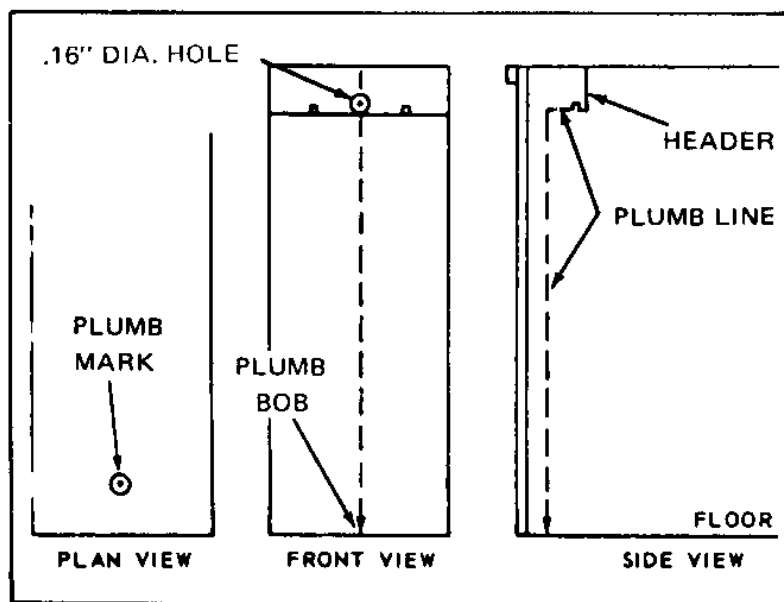

Figure 23. Plumbing Switchgear Units
will have a plumb mark stamped on the floor plate. This mark is located inside the breaker drawout compartment and is represented by a center punch mark with a circle around it. Directly above this mark is a .16" dia. hole in the header of the breaker compartment, as illustrated in Figure 23. Insert the plumb bob line through this hole toward the inside of the compartment, and tie off line with plumb bob hanging free. The point of the plumb bob must be within .12" of the factory installed plumb mark represented by the center punch. The circle around the punch has no meaning and is only an aid to locate the punch mark. All plumb readings should be taken with anchor bolts tight. If it is not within .12", it could be due either to unlevel sills or the cubicles being damaged in shipment. Check first to insure that sills are level. If sills are not level, add 4"x 4" steel shims on top of sill, adjacent to the anchor bolts, as necessary to achieve a level floor in all cubicles and to insure that all cubicles are in firm contact with the foundation at each anchor point. Tighten the anchor bolts. If plumb bob point is still not within .12" after floor leveling, proceed to step No. 5 below.
punch mark with a circle around it. Directly above this mark is a .16" dia. hole in the header of the breaker compartment, as illustrated in Figure 23. Insert the plumb bob line through this hole toward the inside of the compartment, and tie off line with plumb bob hanging free. The point of the plumb bob must be within .12" of the factory installed plumb mark represented by the center punch. The circle around the punch has no meaning and is only an aid to locate the punch mark. If the plumb bob reading exceeds the .12" limitation, does the position of the deviation in each end breaker cubicle read the same direction and approximately the same distance from the punch mark? If this condition exists it would normally indicate that the slab, piers or pilings, as the case may be, are not level and/or are not in the same plane. The addition of shims between foundation and the bottom of the beam should bring shipping group to level showing plumb reading within the .12" tolerance. Note all plumb readings are to be taken with anchor bolts tight.
4. The switchgear equipment represented was accurately aligned on level steel bed plates at the factory. This care insures proper operation and fit of mating parts. supporting surfaces for the switchgear's 4 x 6 beams must be level and in the same plane within .06". If concrete, grouted channels, pier support plates, etc. do not meet this requirement, or if there is any projection higher than the support points in line with beams, shims must be installed in the following manner to provide equivalent true surface for switchgear support. 5-KV and 15-KV outdoor switchgear groups which have been assembled on 4 x 6 beams must be supported along these beams with the maximum span between support points not exceeding nine (9) feet. When switchgear line-up includes 1000 MVA breakers this maximum span must be decreased to six (6) feet. If shims are required use 4" square strips placed between bottom of beam and foundation, in the anchor bolt area where they will be clamped firmly in place.
6. The first breaker cubicle in from each end of every shipping group will have a plumb mark stamped on the floor plate. This mark is located inside the breaker drawout compartment and is represented by a center punch mark with a circle around it. Directly above this mark is a .16" dia. hole in the header of the breaker compartment, as illustrated in Figure 23. Insert the plumb bob line through this hole toward the inside of the compartment, and tie off line with plumb bob hanging free. The point of the plumb bob must be within .12" of the factory installed plumb mark represented by the center punch. The circle around the punch has no meaning and is only an aid to locate the punch mark. If the plumb bob reading exceeds the .12" limitation, does the position of the deviation in each end breaker cubicle read the same direction and approximately the same distance from the punch mark? If this condition exists, it would normally indicate that the slab, piers or pilings, as the case may be, are not level and/or are not in the same plane. The addition of shims between foundation and the bottom of the beam should bring shipping group to level showing plumb reading within the .12" tolerance. Note all plumb readings are to be taken with anchor bolts tight.